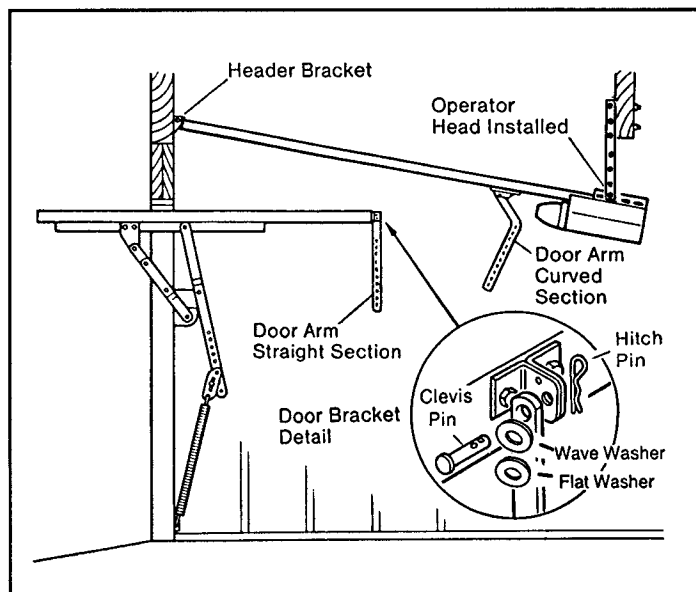

Figure 26
Step 63: Locate centerline of door. Refer to Figure 6, page 7. Next, install door bracket on centerline as close as possible to the top edge of the door. Use 2" lag screws (see Figure 26).
Step 64: Hold the straight door arm up to the door bracket already mounted and align the proper holes (see Figure 26). Slide the flat washer and wave washer onto the dual hole clevis pin. Insert the clevis pin into the aligned holes and secure with hitch pin clip.